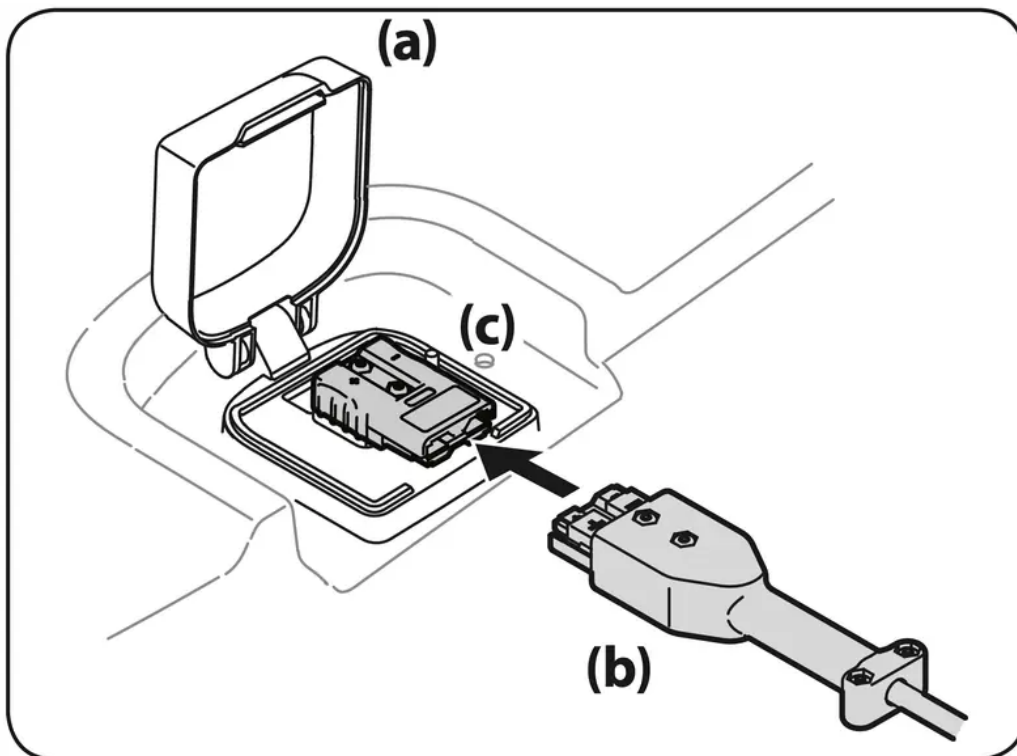

Figure 11
1. Lift the charge port door (a), located on the rear body panel of the tractor. See Figure 11.
2. Insert the charging cord (b) into the charge port (c). Plug charger cord (b) into wall outlet. See Figure 11.